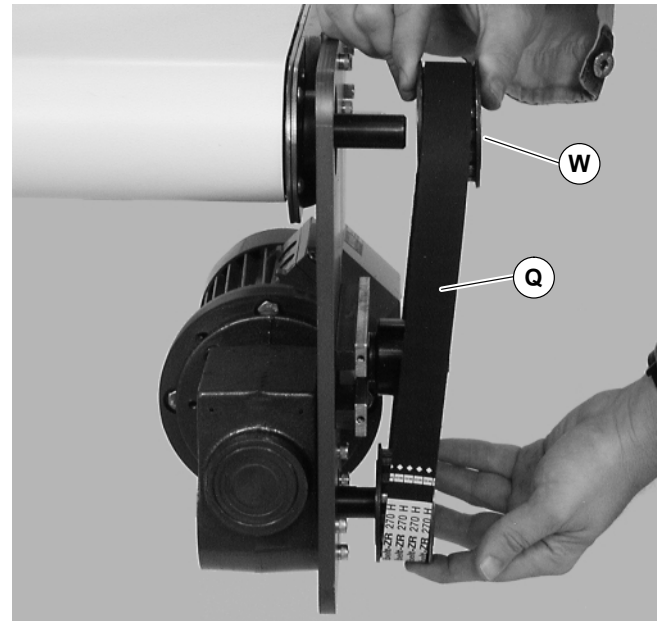

Figure 14
3. Remove timing belt (Q of Figure 14).
NOTE: If timing belt does not slide over pulley flange, loosen driven pulley taper-lock screws (W of Figure 14) and remove pulley with belt (Q). For re-installation, see steps 6 and 7 on beginning on page 6.